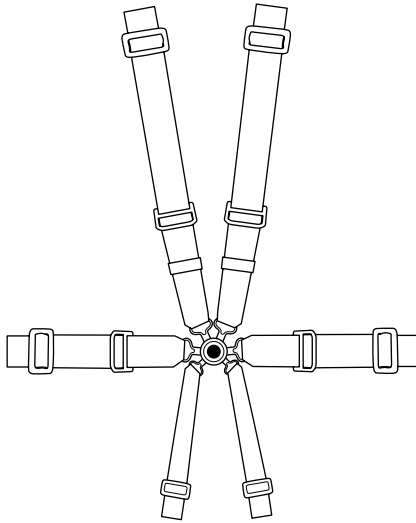

Figure 4-17:
- ✓ Six straps (as shown in Figure 4-17)